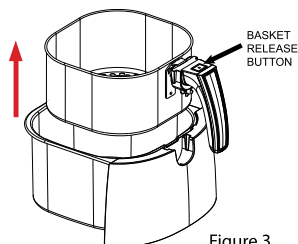

Figure 3
1. Carefully pull out the Drawer Pan (2) from the Main Fryer Base (6) by pulling forward on the basket handle (3).
2. Remove the Basket (8) from the Drawer Pan (2) by pressing down on the Basket Release Button (9) and lifting up on the basket. (see Figure 3).
3. Place ingredients into Basket (8).